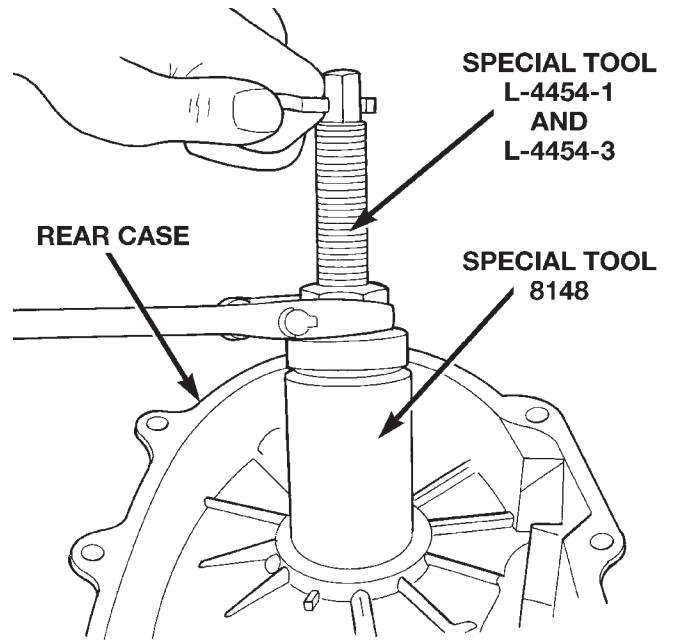

Fig. 46 Output Shaft Rear Bearing Removal
(7) Remove the output shaft rear bearing with the screw and jaws from Remover L-4454 and Cup 8148 (Fig. 46).